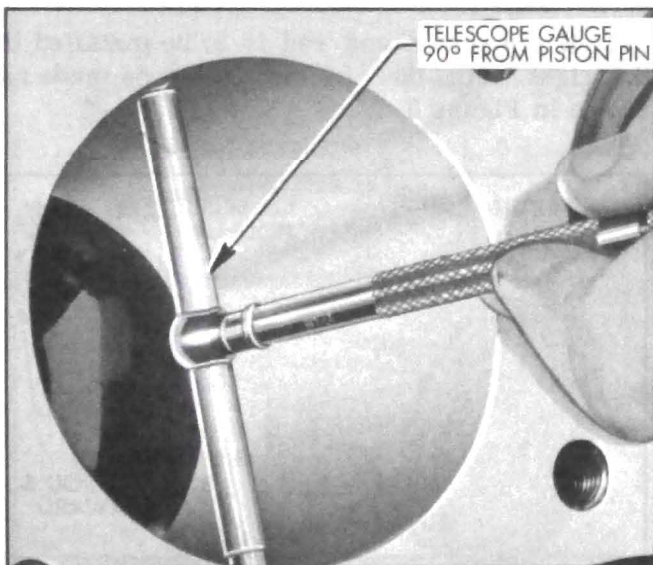

Figure 2-46—Using Telescope Gauge in Cylinder Bore
1. Expand a telescope gauge to fit the cylinder bore at right angles to the piston pin and between 1-1/2" and 2" from the top. See Figure 2-46.